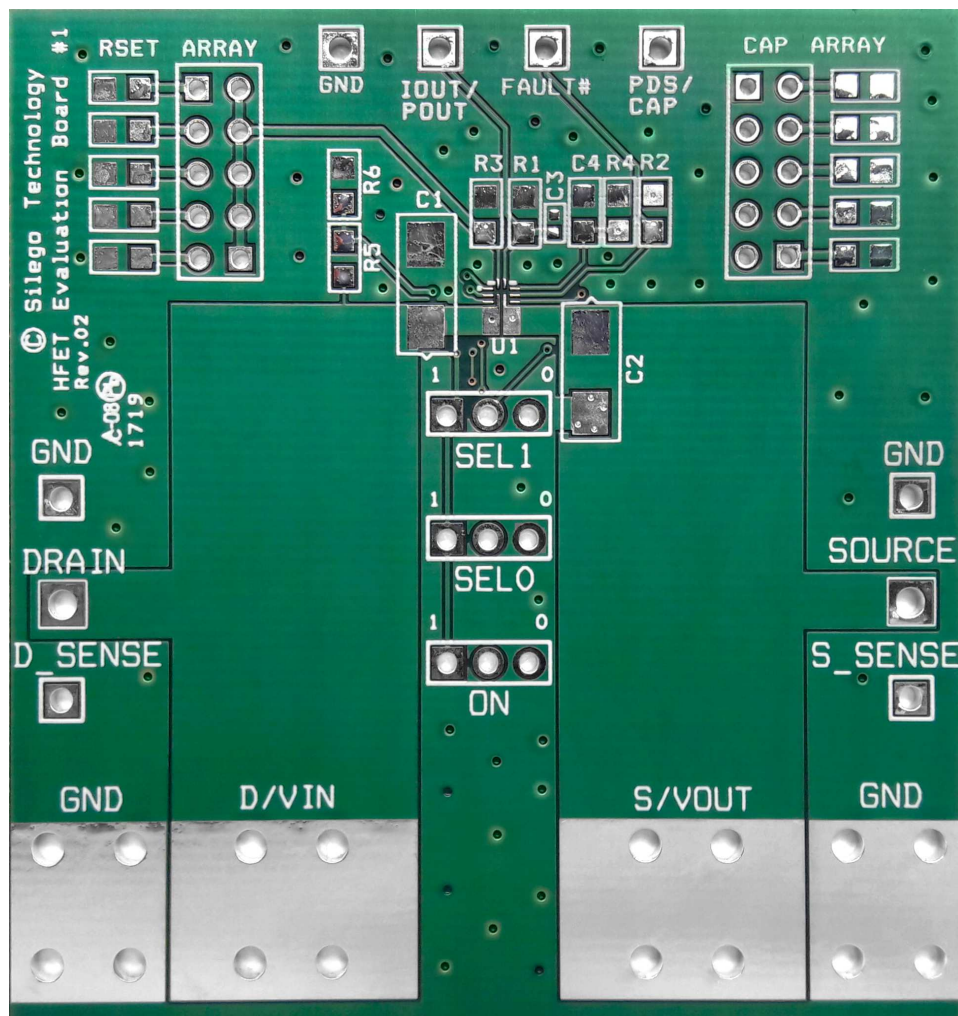

Figure 10. SLG59H1126V Evaluation Board
1. Since the VIN and VOUT pins dissipate most of the heat generated during high-load current operation, it is highly recommended to make power traces as short, direct, and wide as possible. A good practice is to make power traces with absolute minimum widths of 15 mils (0.381 mm) per Ampere. A representative layout, shown in Figure 10, illustrates proper techniques for heat to transfer as efficiently as possible out of the device;
A High Voltage FET Evaluation Board for SLG59H1126V is designed according to the statements above and is illustrated on Figure 10. Please note that evaluation board has D_Sense and S_Sense pads. They cannot carry high currents and dedicated only for $R_{DS(ON)}$ evaluation.